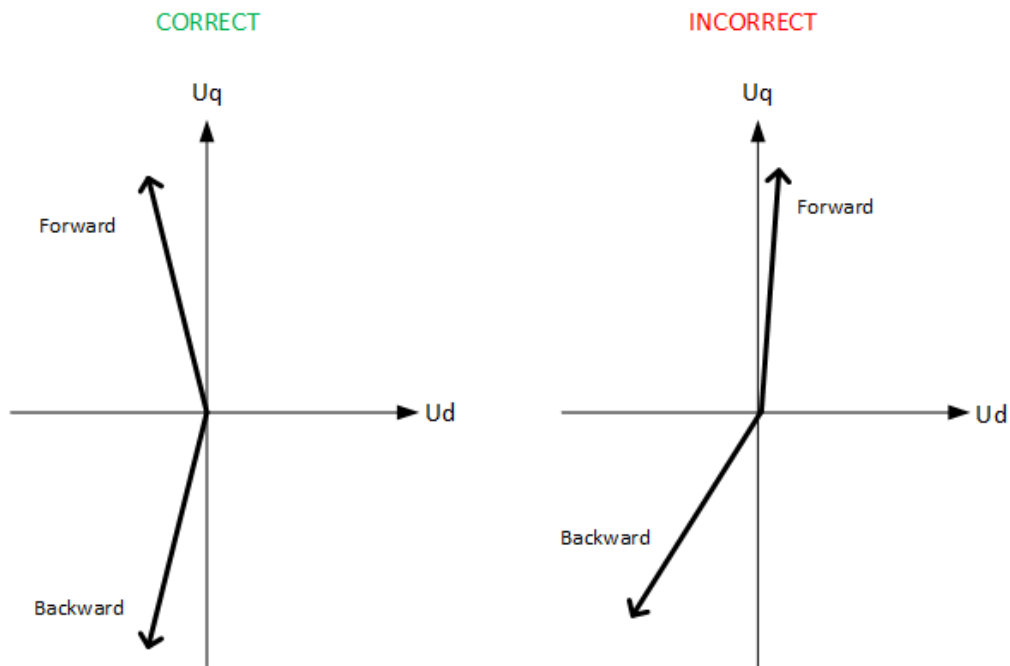

Figure 40 Examples of correct and incorrect alignment
6. Imagine Ud and Uq as voltage vectors in the DQ-plane as shown in figure 40 below. The voltage vectors shall be symmetrical around the D-axis. If not, SensorAngleOffset (0x2052:3) must be adjusted.